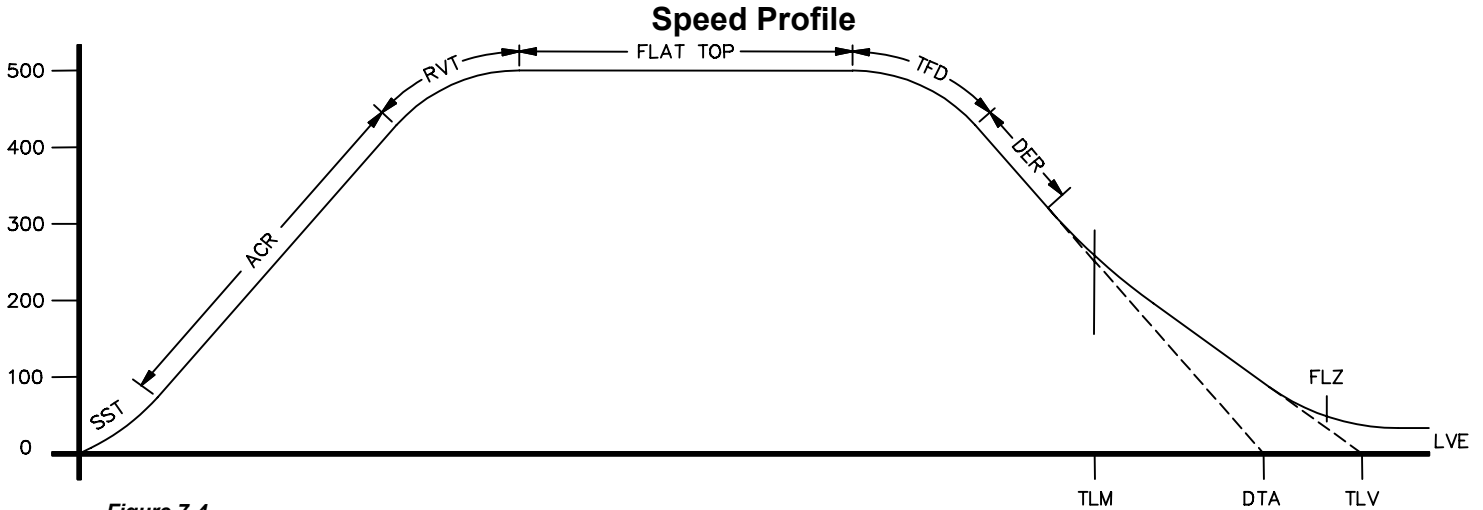

Figure 7-4
4. Using the parameters listed in **Figure 7-4**, adjust the “S Curve” profile for the desired acceleration and deceleration ride profile.